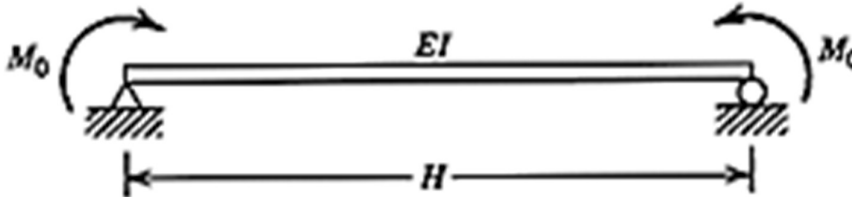

Fig. 2
- Q.2 A simply supported beam subjected to concentrated moments at each end is shown in Fig. 2. Find the approximate solution for the beam deflection using the Variational method and Galerkin's method. [10] CO 2 BL 1,2
Q.5(b) Evaluate the element shape functions and calculate the pressure value at point A in Fig. 2. [5] 3 1-3